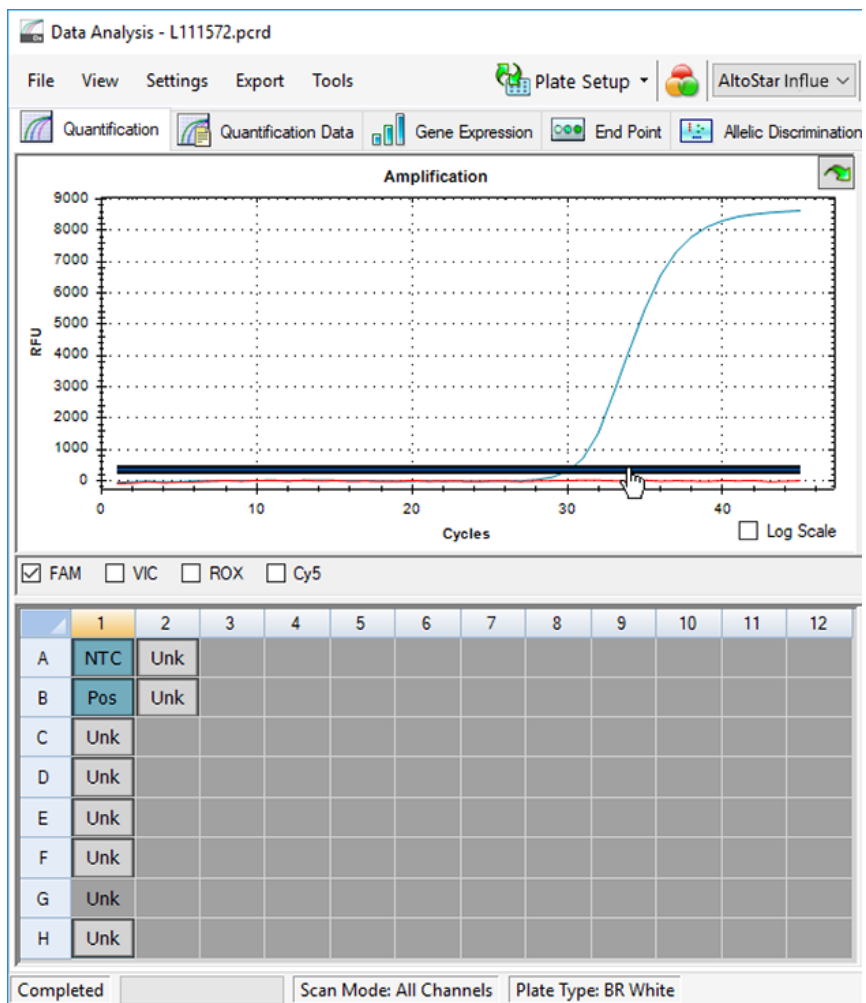

Figure 10: Data Analysis window: setting the FAM™ threshold
5. At the left side of the Data Analysis window untick the **VIC** checkbox and tick the **FAM** checkbox for the detection channel of the influenza A virus target (see figure 10).
6. Select only the wells containing the NTC and the PC in the plate view of the Data Analysis window (see figure 10).
7. Drag the threshold well above the signal of the NTC into the exponential area of the PC signal (see figure 10).